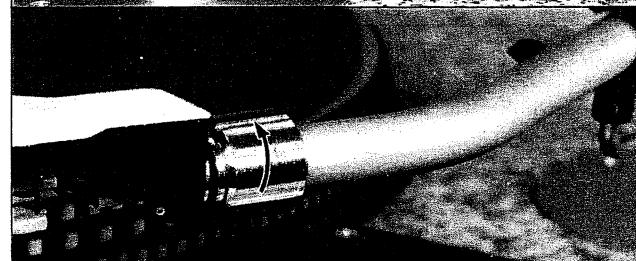

Figure 8
6. Insert the head-shell into the top of tone arm and turn the clamp collar in arrow direction to fix the head-shell. (Refer to figure 8)